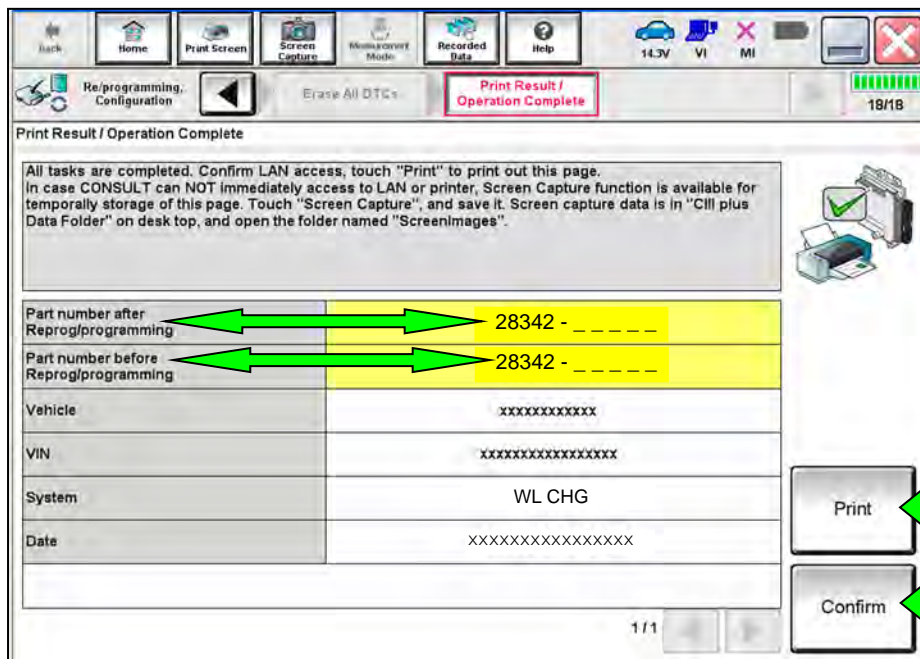

Figure 21
25. Print a copy of this screen (Figure 21) and attach it to the repair order for warranty documentation.